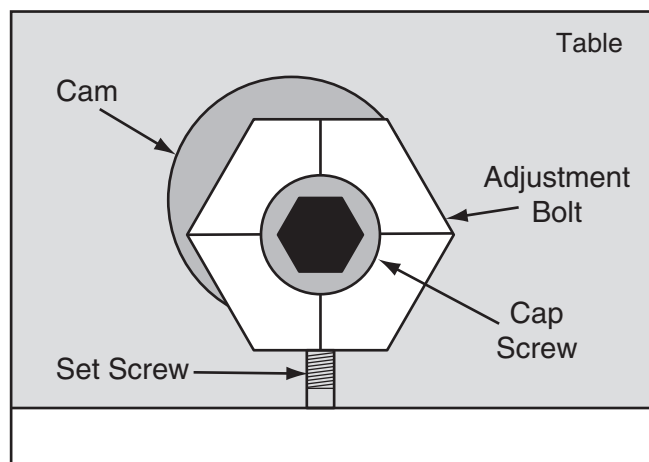

Figure 71. Illustration of the table adjustment bolt components.
8. Loosen the cap screw in the center of the outfeed table adjustment bolt three full turns, then loosen the set screw that is directly underneath the adjustment bolt (see **Figure 71**).
9. The adjustment bolt shaft is cam-shaped, as shown in **Figure 71**, and connects the table to the lifting arm. Rotate the adjustment bolt in very small increments to raise or lower the front corner of the outfeed table until the surface is the correct height above the cutterhead, as instructed in **Step 4**.
11. When the outfeed table height is correct and parallel to the cutterhead, re-tighten the adjustment bolt cap screw and set screw (see **Figure 71**), then make sure the table lock is tightened.